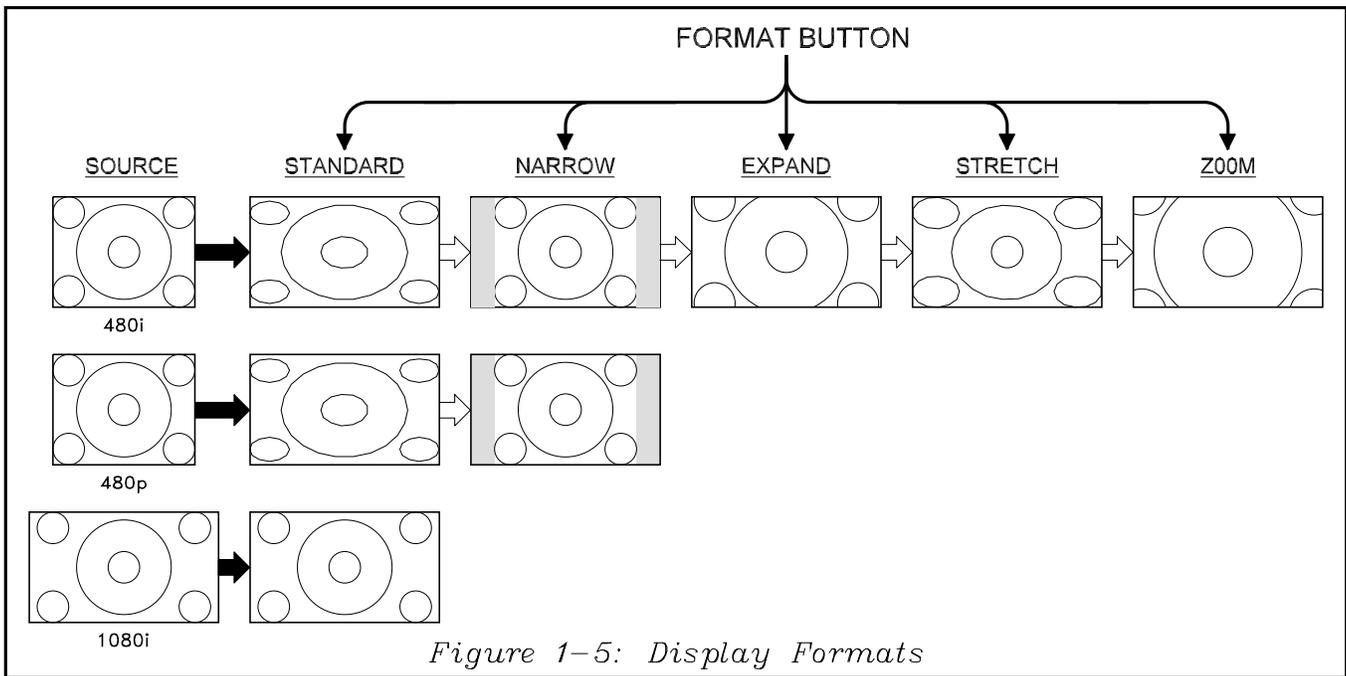

Figure 1-5: Display Formats
*Figure 1-5* illustrates the Display Formats possible in the V19. Pressing the "FORMAT" button on the Remote Control changes the Display Format. Note that